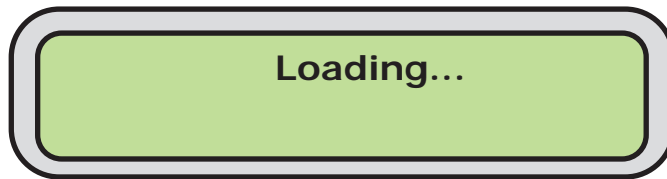

Figure 10, MagWeb GT Loading Software
1. Loading the software firmware (Figure 10).